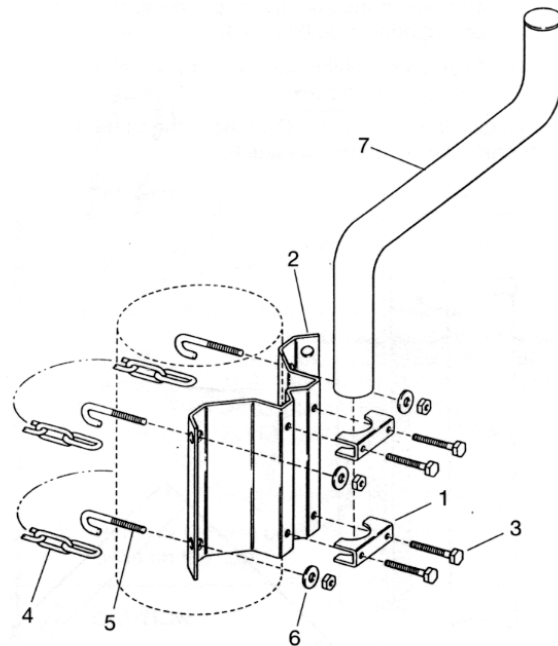

Figure 1
- Install the casing mount on the well (Figure 1):